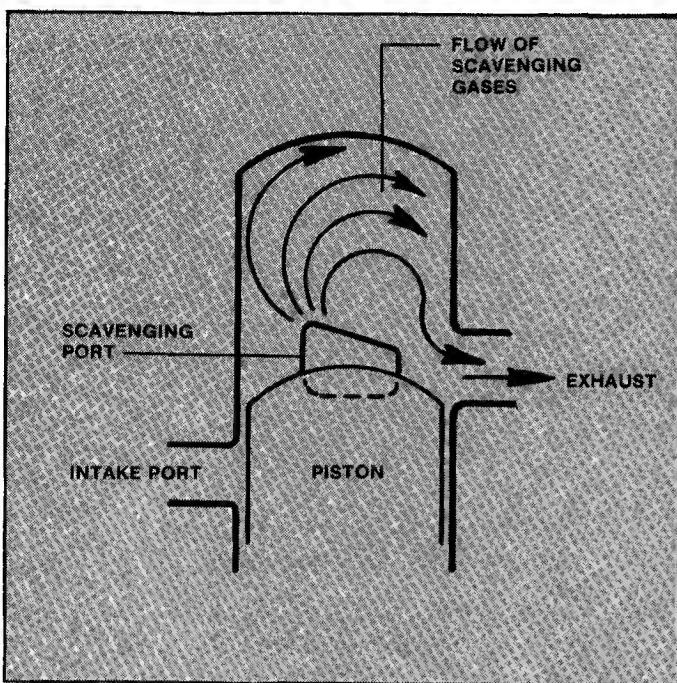

FIGURE 2.11
- B.** The operative relationship between intake, scavenging and exhaust ports is shown below. Figure 2.11.